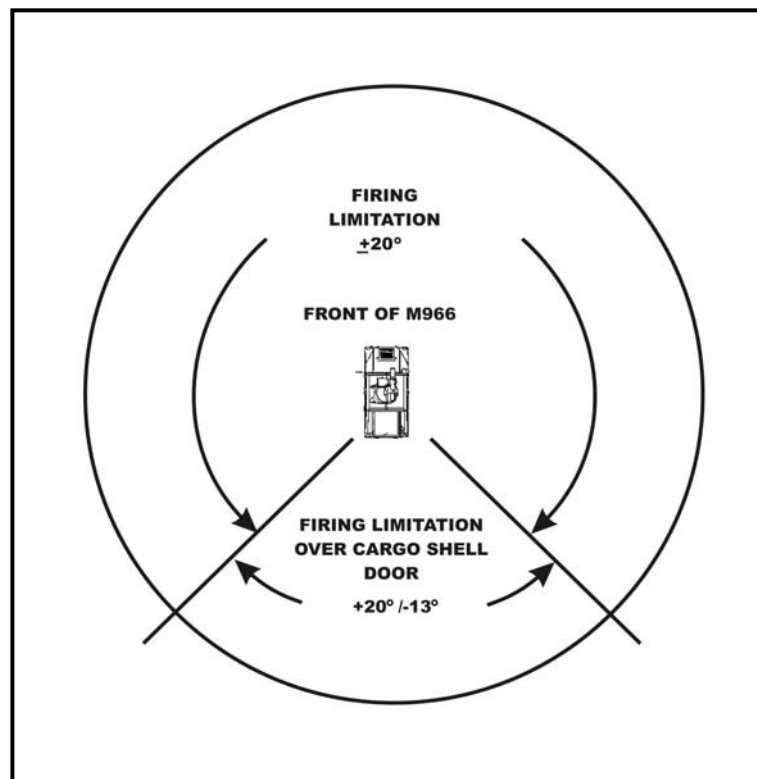

Figure E-2. M966-mounted TOW firing angle limitations.
b. The firing angle limitations of the TOW carriers are as shown in Figure E-2.